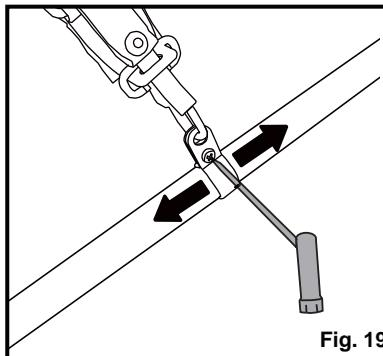

Fig. 19
- Slide the clasp to a comfortable operating position, and then tighten the screw moderately (Fig. 19).